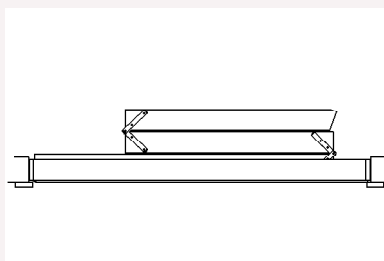

fig 13
2. Lift the stairs through the opening into the attic space. Then lower them down squarely into the opening so the frame of the stair rests on the temporary cleats (figure 13). This is normally best done from below and can be done by one person, but it is very much easier and safer with two people.